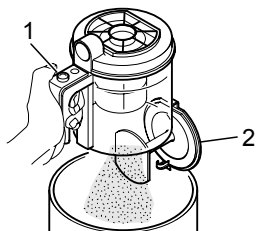

Fig. 18
4. Push the release button (Fig. 18/1). The base (Fig. 18/2) opens and the dust runs into the dustbin.